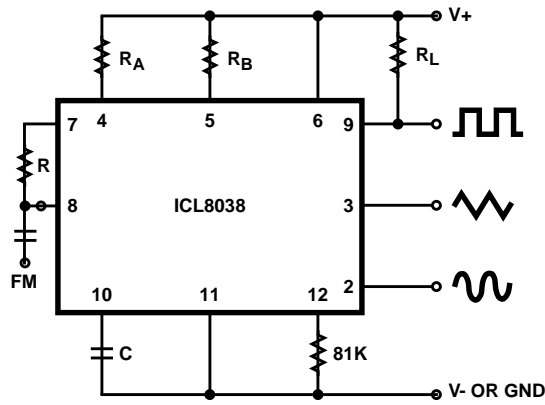

FIGURE 5A. CONNECTIONS FOR FREQUENCY MODULATION
- $V_{SUPPLY} = 20V$ ;  $R_A$  and  $R_B = 10k\Omega$ ,  $f \approx 10kHz$  nominal; can be extended 1000 to 1. See Figures 5A and 5B.
The frequency of the waveform generator is a direct function of the DC voltage at Terminal 8 (measured from  $V_+$ ). By altering this voltage, frequency modulation is performed. For small deviations (e.g.  $\pm 10\%$ ) the modulating signal can be applied directly to pin 8, merely providing DC decoupling with a capacitor as shown in Figure 5A. An external resistor between pins 7 and 8 is not necessary, but it can be used to increase input impedance from about 8kΩ (pins 7 and 8 connected together), to about  $(R + 8\text{k}\Omega)$ .